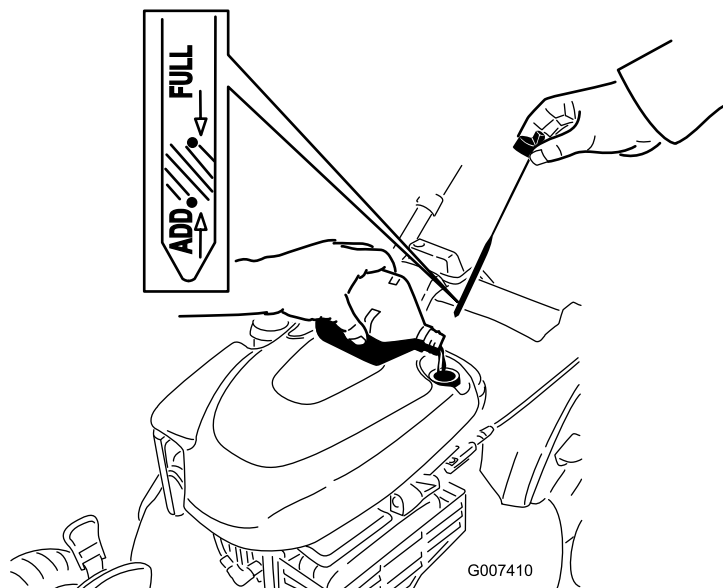

Figure 44
12. Remove the dipstick and read the oil level; refer to Figure 44.